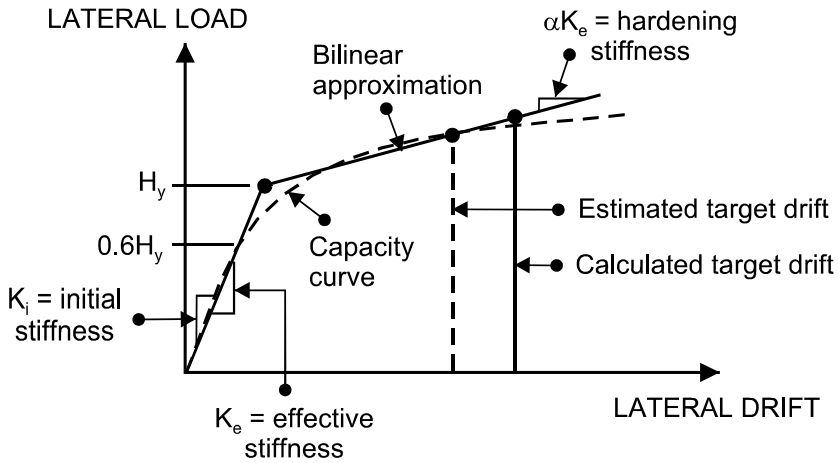

Figure 29.1 Ingredients of a Target Displacement Plot
Figure 29.1 shows the ingredients of a target displacement plot. These are as follows.
In Figure 29.1 the calculated target drift is larger than the estimated drift. A new estimate must be made, until the estimated and calculated drifts are close to each other. This defines the target drift.
- (1) The bilinear approximation. The FEMA 356 approximation is shown in Figure 29.1. The areas under the capacity curve and the bilinear approximation are equal at the estimated target drift.
- (2) The calculated target drift. This is as follows.
This factor converts the drift for an elastic structure with stiffness K_e to the drift for an inelastic structure with bilinear behavior as shown in Figure 29.1. This factor is largely empirical. For details see FEMA 356.